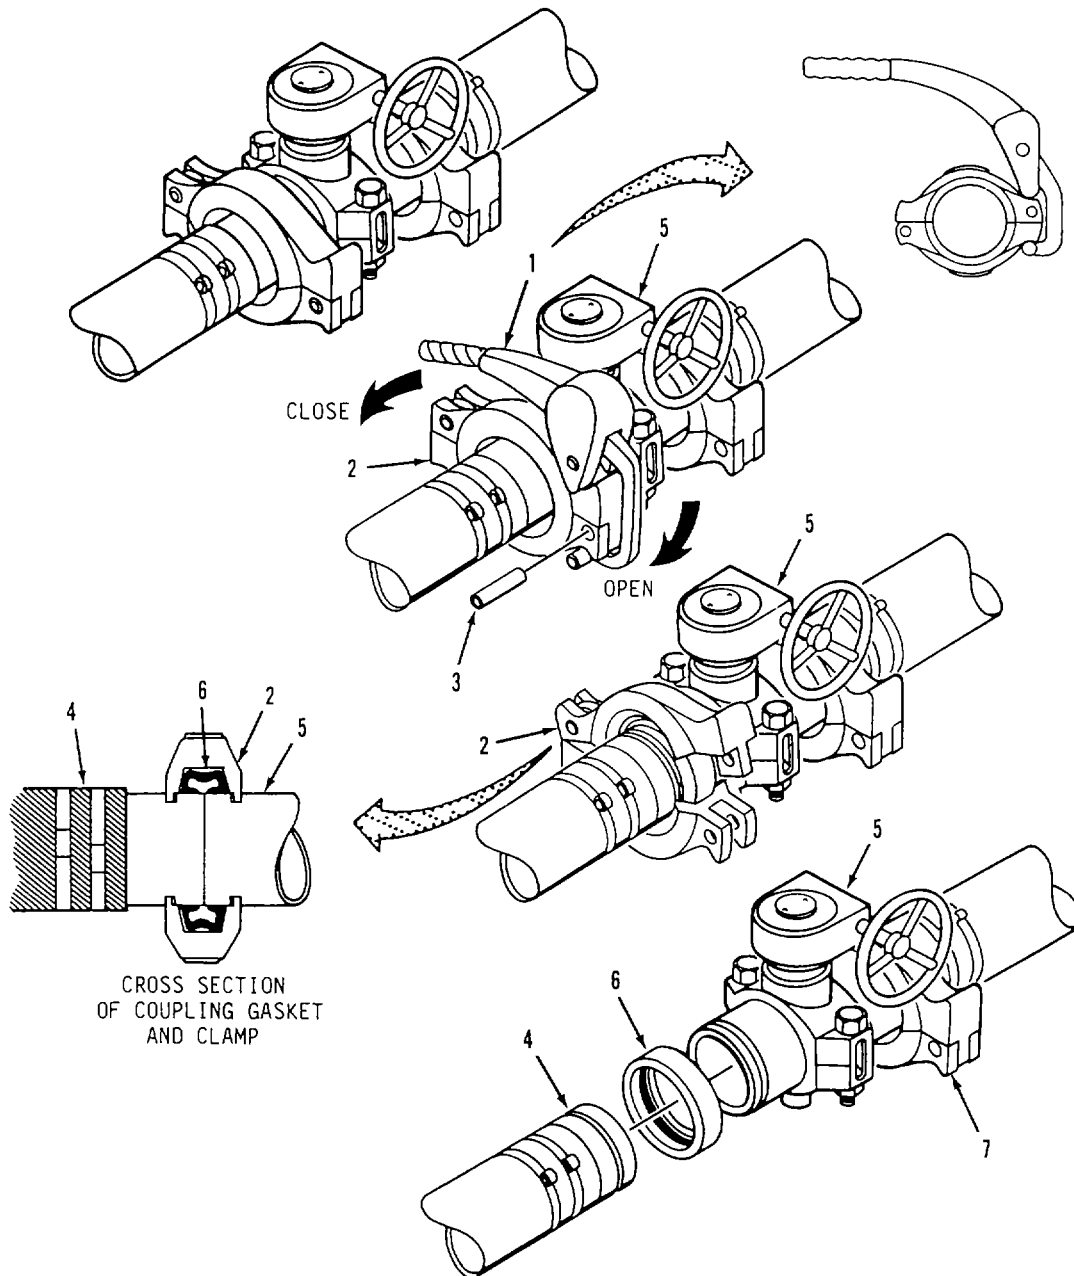

Figure 3-5. Coupling Clamp Component Installation.
**b. Installation.** Refer to figure 3-5.
- (1) Position replacement butterfly valve (5) in water system.
- (2) Apply a thin, even coating of lubricant to coupling gasket (6).
- (3) Slide gasket (6) over end of coupling on hose (4).
- (4) Align and mate ends of couplings on hose (4) and butterfly valve (5).
- (5) Slide coupling gasket (6) over ends of couplings on hose (4) and butterfly valve (5). Make sure gasket is positioned as shown.
- (6) Position one half of coupling clamp (2) over coupling gasket (6) and into grooves of couplings on hose (4) and butterfly valve (5).
- (7) Close other half of coupling clamp (2) over coupling gasket (6) while aligning clamp with grooves of couplings on hose (4) and butterfly valve (5). Hold clamp in position.
- (8) Place assembly tool (1) on coupling clamp (2). Move handle to closed position. As clamp is squeezed together, make sure coupling gasket (6) is not pinched under clamp. Assembly tool will lock in closed position when clamp is correctly seated.